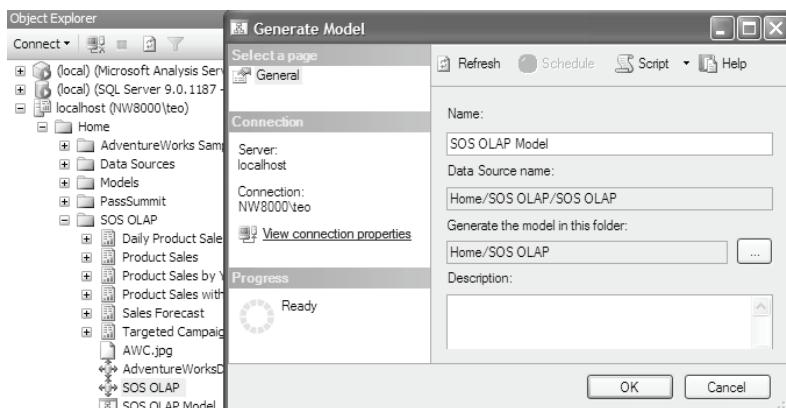

Figure 18.27 Generate the UDM ad hoc model directly from the data source.
4. In the Generate Model dialog that follows, enter **SOS OLAP Model** as the model name. Accept the default folder location to generate the ad hoc model in the Home/SOS OLAP folder (see Figure 18.27). Click OK.